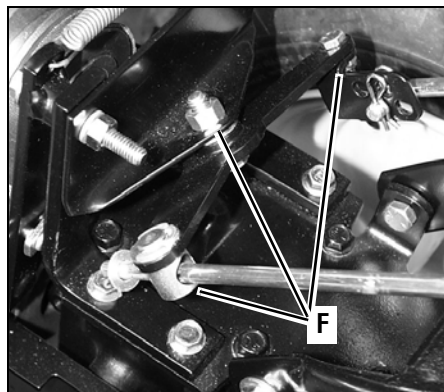

Figure 5-2
- Oil the various pivot points (F, Figure 5-2) on the shifting mechanism, the handlebar, and the idler arms (do not allow oil on the belts or pulleys).